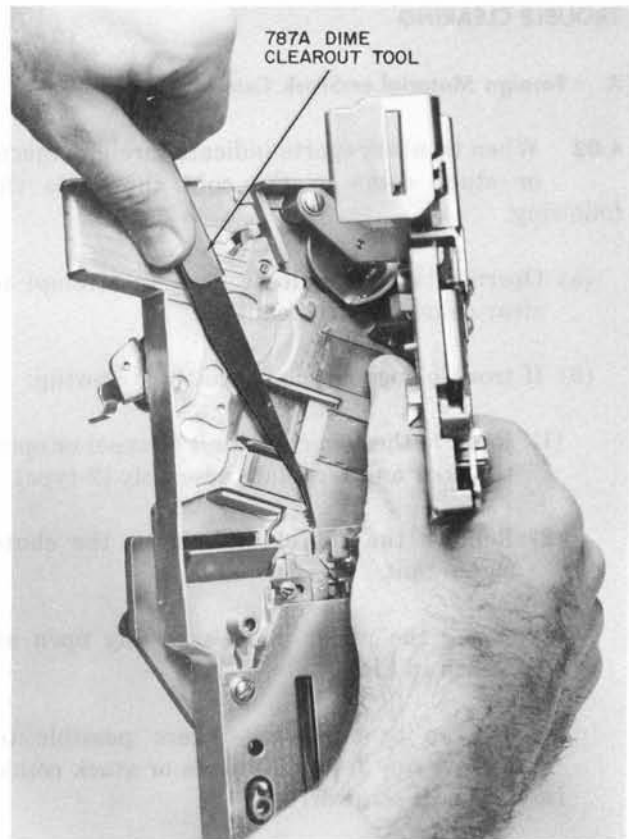

Fig. 52—Using a 787A Dime Clearout Tool in Chute
4.03 If trouble cannot be cleared using an orange stick, use a 787A tool as shown in Fig. 52 as follows:
- (1) Remove the totalizer or the 47A signal unit from the chute.
- (2) Swing the upper plate assembly open as shown in Fig. 52.